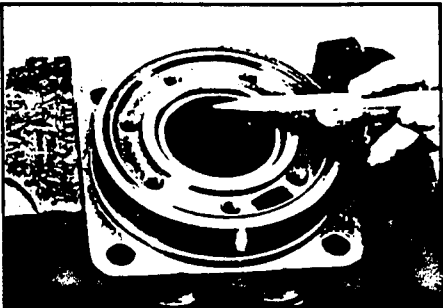
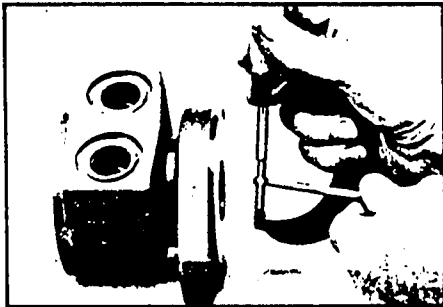

Figure 27
Figure 28
21. If the housing (18) assembly has passed inspection to this point, inspect the housing bearings/bushings (19) and (13) and if they are captured in the housing cavity the two thrust washers (14) and thrust bearing (15). The bearing rollers must be firmly retained in the bearing cages, but must rotate and orbit freely. All rollers and thrust washers must be free of brinelling and corrosion. SEE FIGURE 27. The MG Series bushing (19) or (13) to coupling shaft diametral clearance must not exceed .010 inch (.025 mm). A bearing, bushing, or thrust washer that does not pass inspection must be replaced. SEE FIGURE 28. If the housing has passed this inspection the disassembly of the Torqmotor is completed.